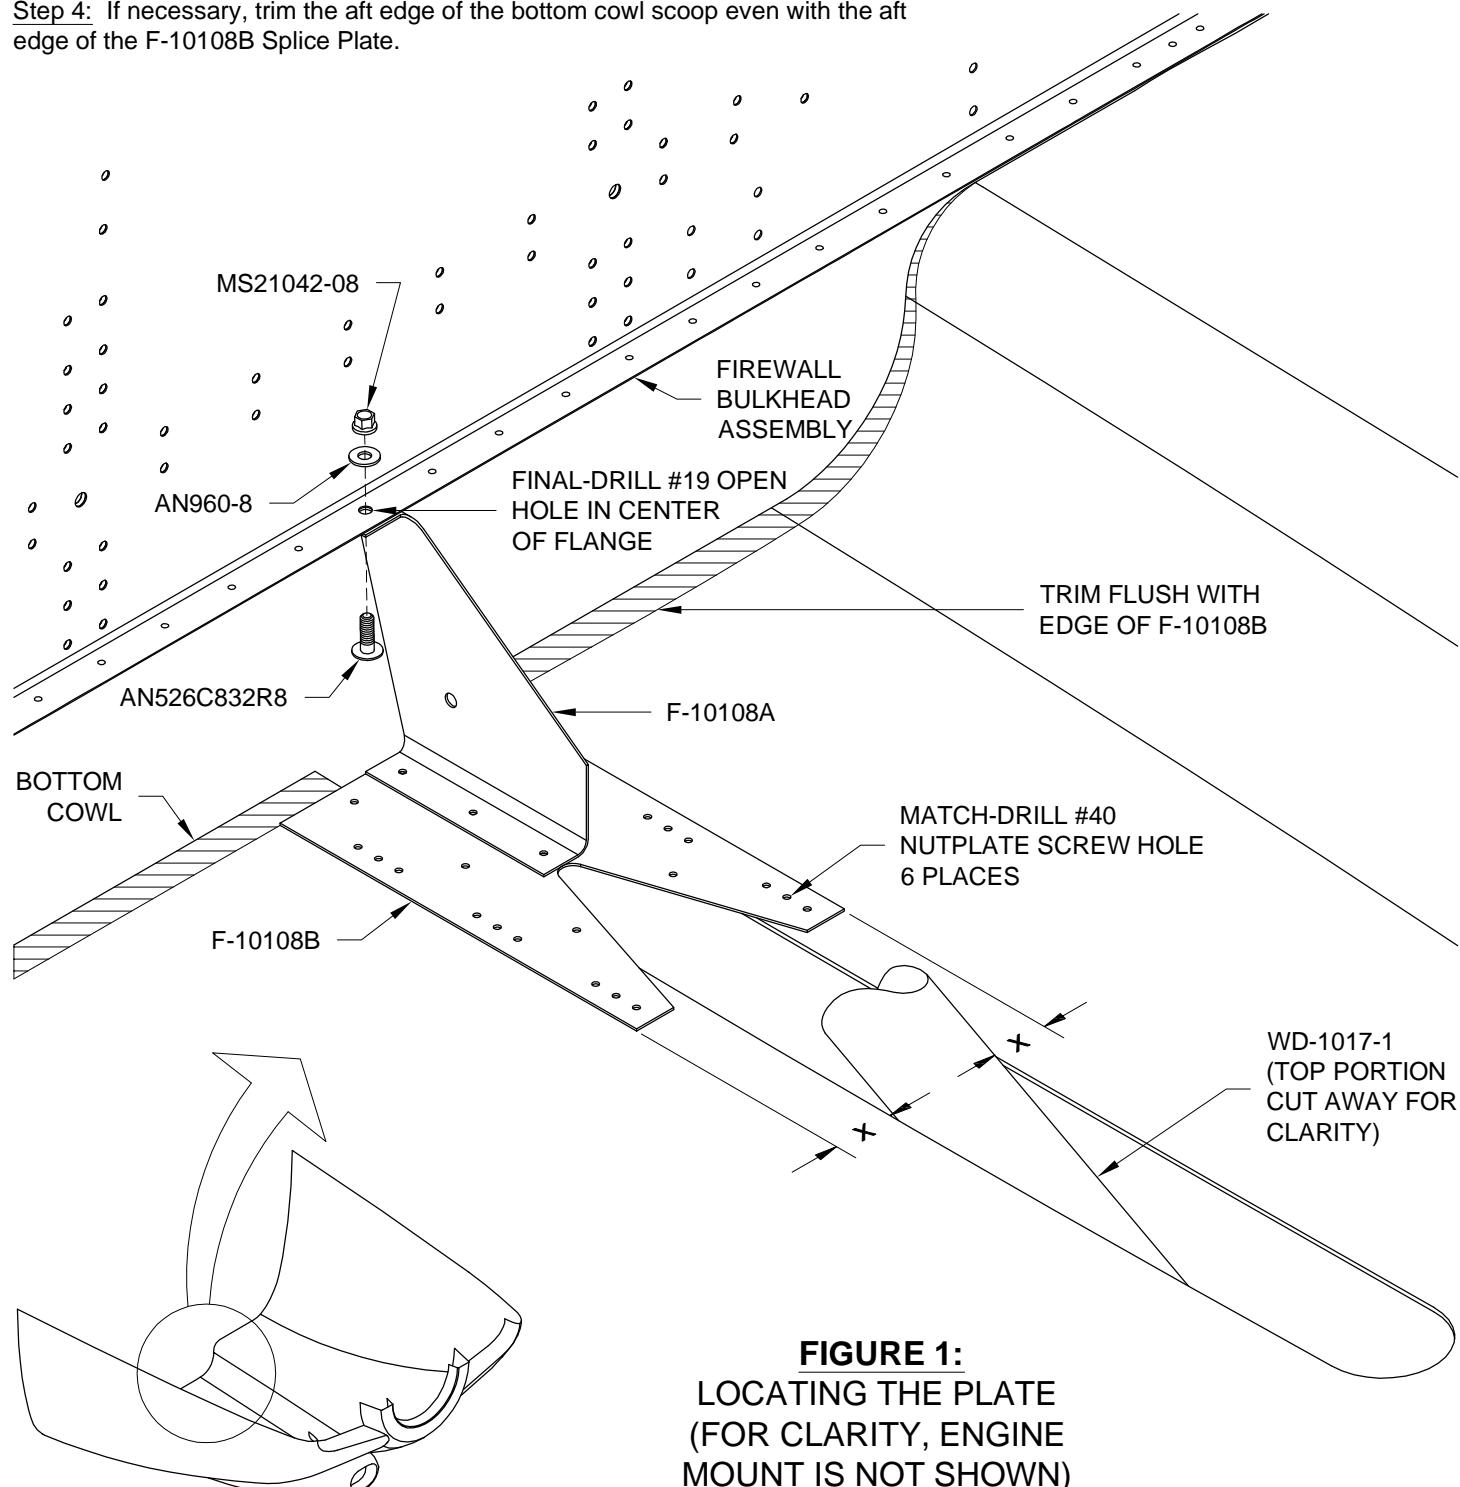

FIGURE 1:
Step 1: Cleco the F-10108A Support Bracket to the F-10108B Splice Plate. Final-Drill #19 the open hole in the center of the Firewall Bulkhead Assembly bottom flange. Attach the support bracket to the bottom flange using this hole and the hardware shown in Figure 1.
Step 2: Make sure the F-10108A Support Bracket is vertical, not angled toward the left or right, then align the centerline of the F-10108B Splice Plate with the WD-1017-1 Nose Gear Leg Assembly. This can be accomplished, as shown in Figure 1, by projecting two lines off the edges of the splice plate and rotating the splice plate until there is equal distance between these lines and the Nose Gear Leg Assembly.